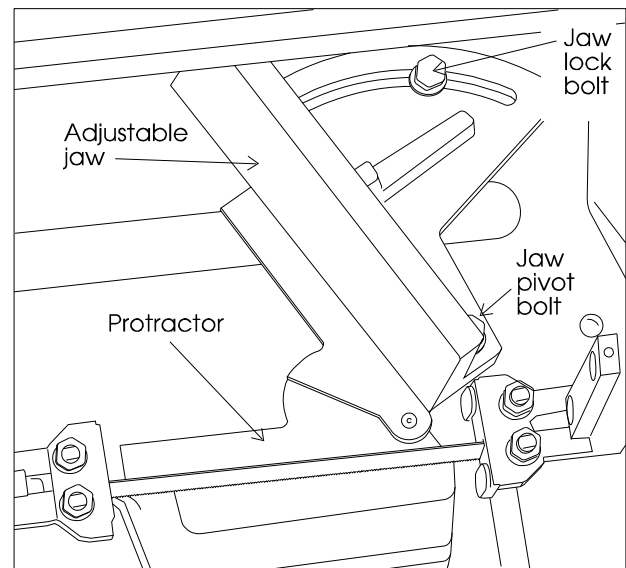

Figure 4: Using a protractor to set jaw angle
6. Lay the protractor on the saw table and place one edge of the protractor against the saw blade and the other edge against the stationary vise jaw. (*Figure 4*.)